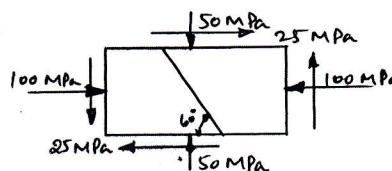

Fig.Q3(b)
- b. A machine component is subjected to the stress as shown in Fig.Q3(b). Find the normal and shearing stresses on the section AB inclined at an angle of 60° with x - x axis. Also find the resultant stress on the section by Mohr's circle.